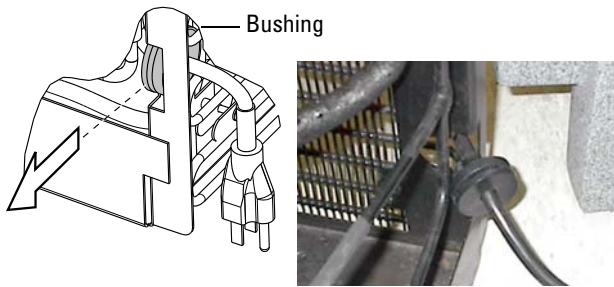

Figure 27: Remove power cord
- b. Slide the bushing sideways away from the refrigeration module until it is free (Figure 27). Avoid bending the refrigeration tubing.